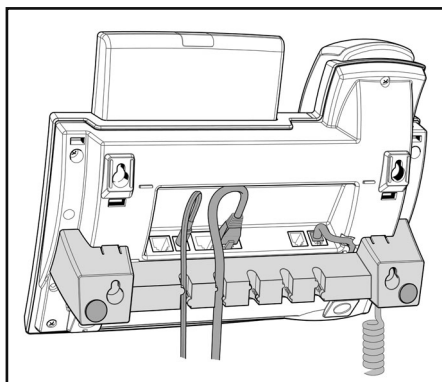

Fig. 6
- 6** The slots on the footstand for the various cords can also be used when the phone is mounted on a wall. After connecting the phone (see chapter *Setting up the Phone*, above), form the cords into loops and gently press the long ends into the slots on the footstand. The loops should not be too big, so that they will not hamper the secure mounting of the phone on the wall, and not too small, so that the cords will not be bent or broken (Fig. 6).